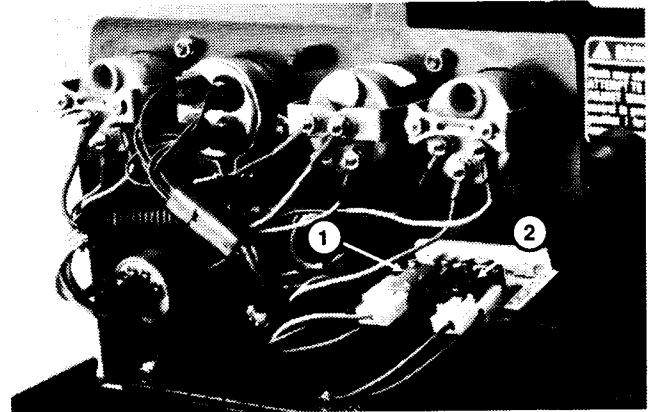

Figure 10
The Lower-Mow/Raise Control has two (2) normally open (NO) switches, one for the Lower-Mow function and one for the Raise function. Each switch is normally open and closes when the joystick is moved (Fig. 10).